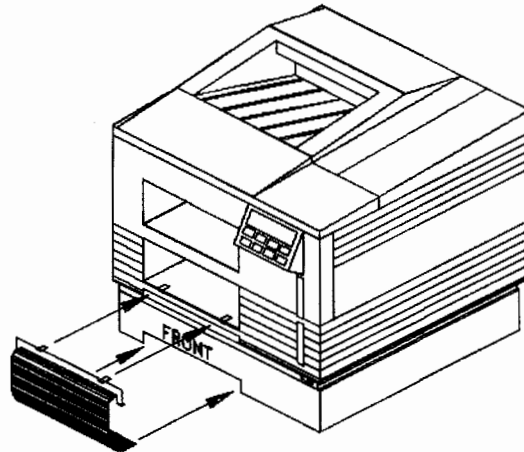

Figure 2-4. Installing the Duplex Paper Guide
1. With the upper and the lower cassette tray removed, locate the two slots at the front of the printer's lower paper tray opening, as shown in figure 2-4.
2. Insert the two mounting tabs of the Duplex Paper Guide into the two slots and slide the bottom lip of the Duplex Paper Guide into the opening at the base of the Printer Pedestal, as shown in figure 2-4.